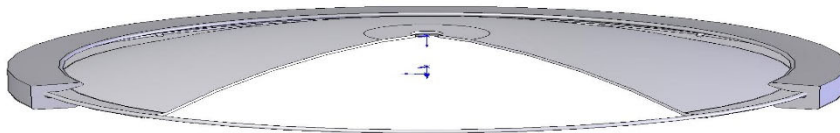

Figure 23
2. Check if the door gasket frame, door gasket plate are installed into the gasket completely as shown in Figure 23.